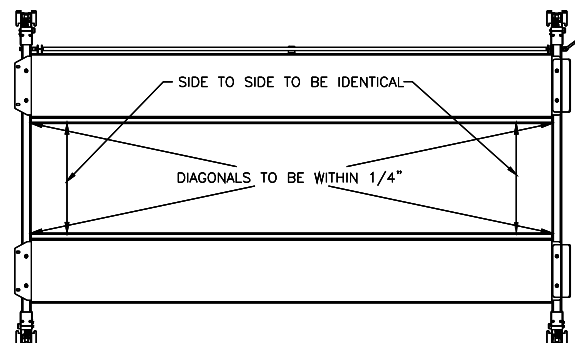

Fig 12 – Final Runway Positioning
- 18) Check the layout of the lift in the bay. If anchoring the lift, this is the last chance to make adjustments. Adjust the position of the runways so the distance from power side jack rail to idler side jack rail is the same at the front and the rear and the diagonal measurements from the front tip of one rail to rear tip of the opposite rail are within 1/4", **Fig 12.**